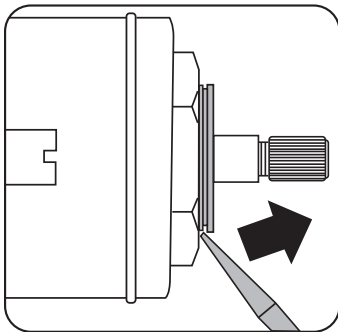

Figure 2
6. After wall is finished, remove plastic guard and replace with trim sleeve and escutcheon plate (see Figure 2). Orient handle so that lever is pointed down toward "OFF" position.
2. Remove the grey adjustment ring by placing the blade of a knife into the groove and prying it off (see Figure 2).